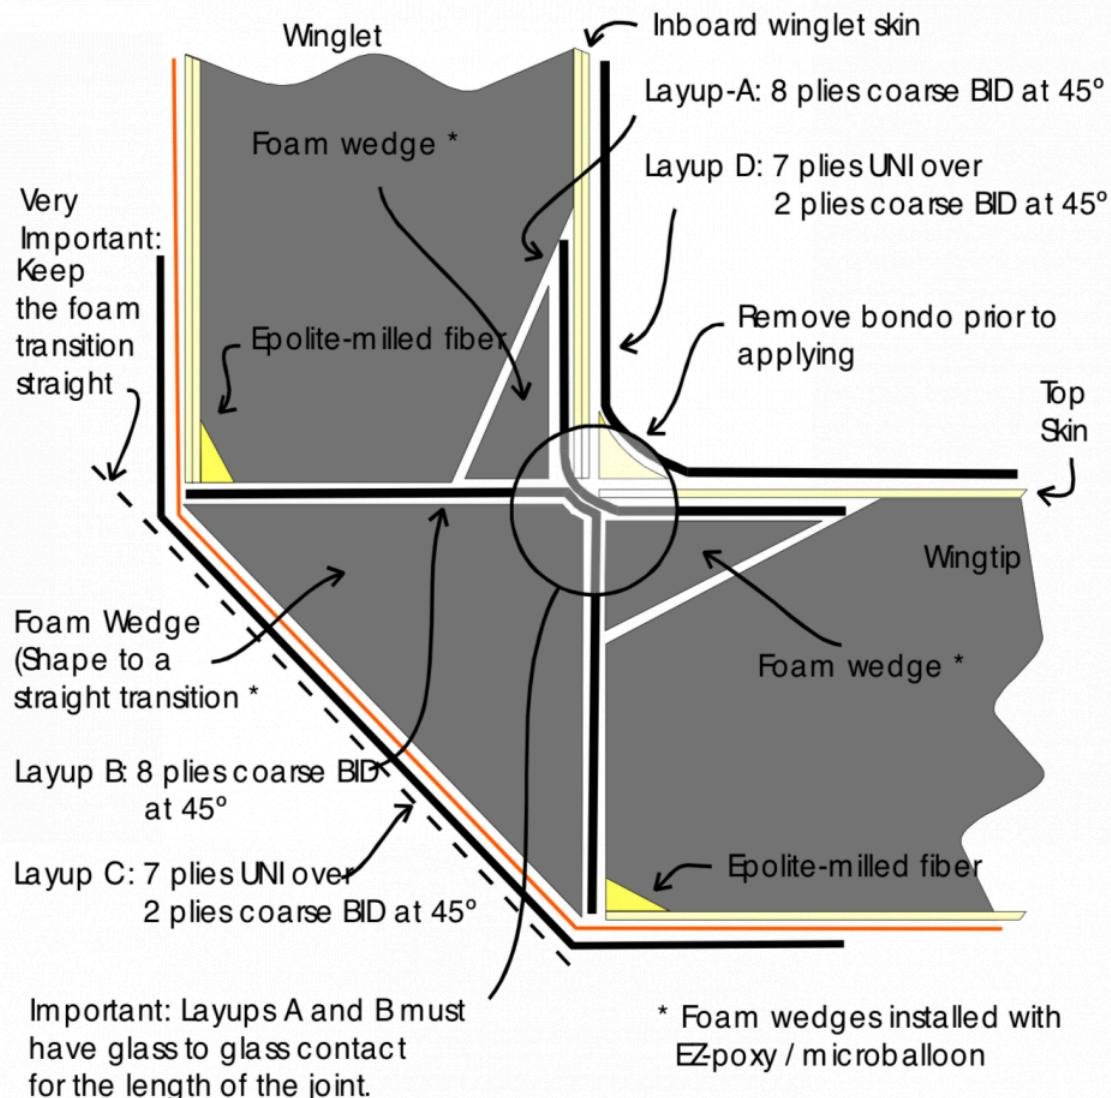

Figure 2-28. Winglet Attachment Layup Cross Section Detail
- Lay-up A and B (Figure 2-28). “A” ties **inboard** winglet to top wing skin, from inner skin surfaces. “B” which must make glass- to- glass contact with “A” for entire length, serves as a shear web, and covers the exposed foam of the wingtip and the winglet.
Cut out foam wedges $1/2"$ x $1/4"$ into the winglet against the outer side skin, and $2" \times 1"$ wedges against the inner side skin along the winglet to wing attach intersections. It is advisable to save the foam from the deeper cut, as you will need to fill in the space after Layup A (Figure 2-28) has been completed.
You will do four lay-ups on each winglet to complete the main attachment process. Refer to the Figure 2-28 for a cross sectional view of the lay-up. Sand areas to be glassed and cut plies of **BID** and **UNI** for each winglet- to- wing layup per the glass layup schedule below.